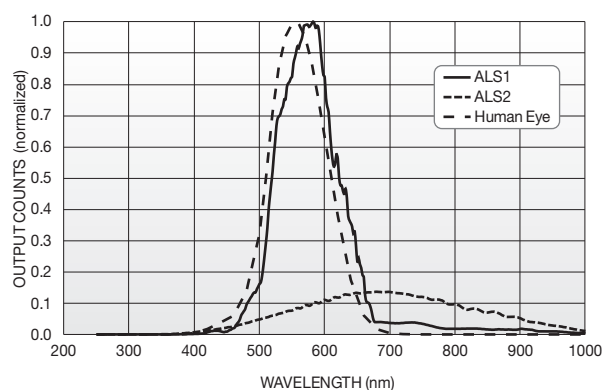

Figure 4: ALS Spectral Response (Normalized)
6. Refer to Figure 4 for more information on spectral response.
The HS3000A contains two ambient light sensors. The first ambient light sensor employs a photo diode with its own proprietary photopic filter limiting extraneous photons, and thus performing as a band pass filter on the incident wave front. The filter only transmits photons in the visible spectrum which are primarily detected by the human eye. The photo response of this sensor is as shown in Figure4. The second ambient light sensor employs a similar photo diode but without a light filter. Either or both ALS can be enabled. When disabled, an ALS is put in power down mode.